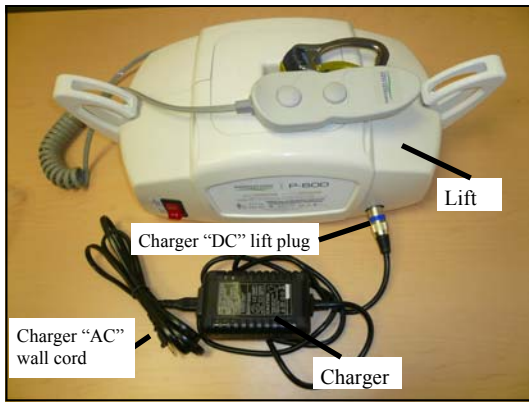

Figure 12A - P-600 lift and charger set on a secure table top or counter for charging.
Step 1) Familiarize yourself with the basic components of the charging system. Refer to figures 12A and 12B.